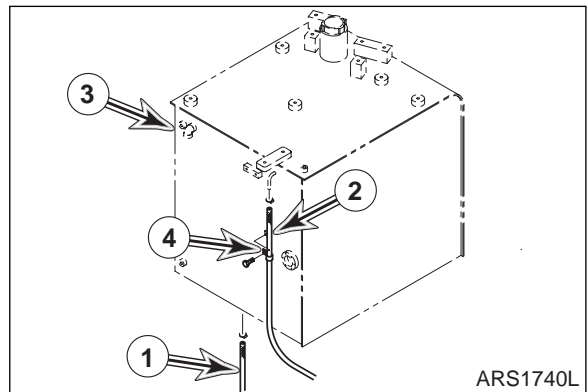

Figure 18
10. Connect as tagged, fuel supply line (1, Figure 18) and fuel return line (2) to fuel tank (3).
11. Install clamp (4, Figure 18) to hold fuel return line (2) to tank (3).